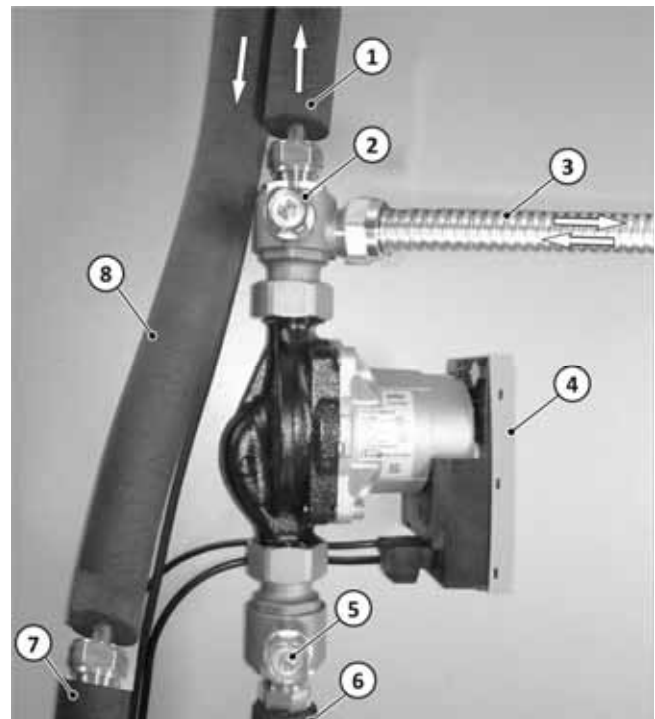

Abb. 6: Extension kit mounted
1. Install the expansion set in the solar return pipe as shown in → Abb. 6.